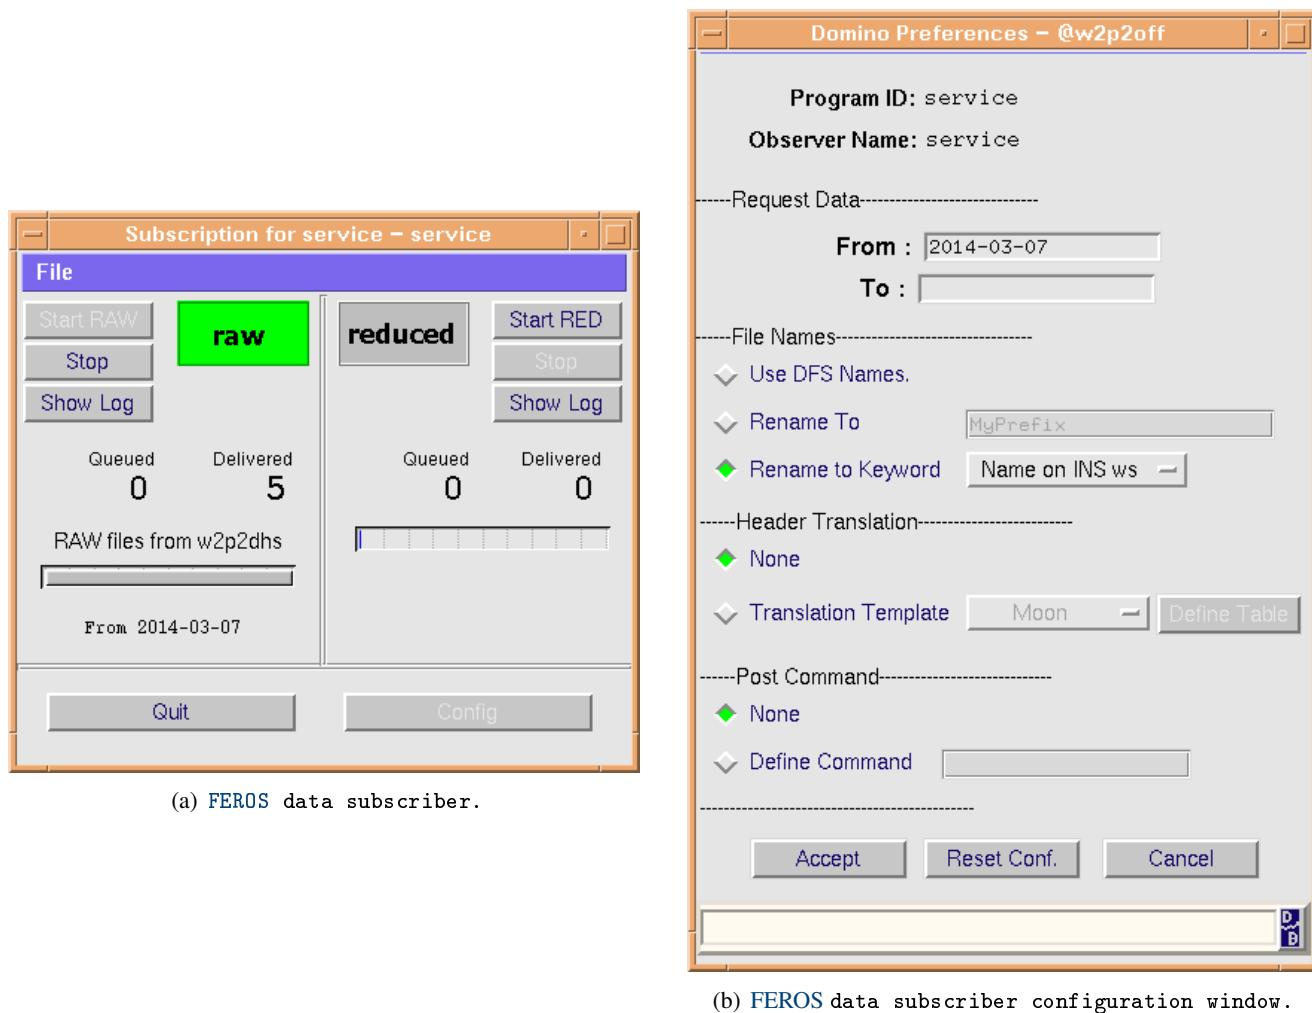

Figure 9.3: FEROS Data Subscriber.
- Stop Data Subscriber and DRS at the DRS computer (Fig. 9.3(a)).
- Configure Data Subscriber (Fig. 9.3(b)).